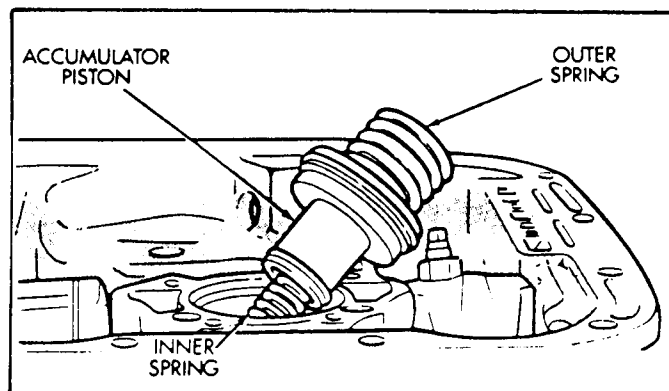

Figure 13
21. Remove the accumulator piston and both inner and outer springs (Figure 13).